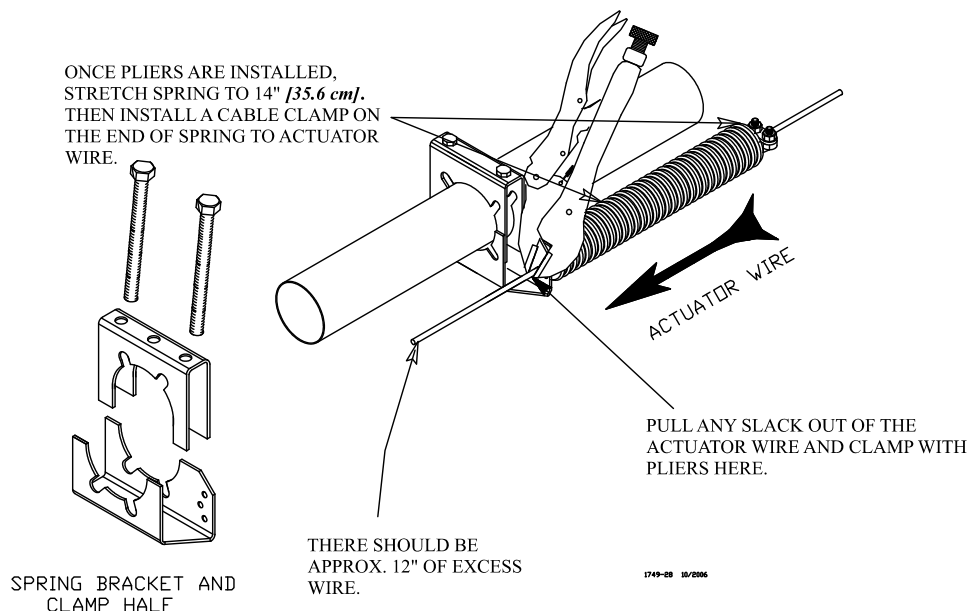

Figure 46. Terminal Bracket
6. Clamp with pliers once slack has been removed from the actuator wire, see **figure 46**.
9. Clamp the springs to the actuator wire using an 1/8 inch cable clamp, see **figure 46**. Repeat procedure for the remaining actuator wire installation,